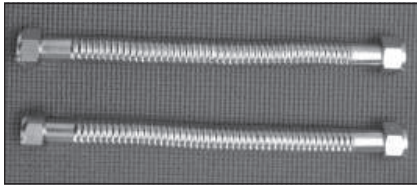

Figure 1 - Flexible connectors use compression fittings and do not require soldering.
- Threaded connectors (Figure 1) for the cold and hot water pipes
- For homes with copper pipes, you may purchase connector kits with compression fittings that don't require soldering (Figure 1). Compression fittings are easier to install than soldering copper pipes. Thread sealant tape or pipe joint compound approved for potable water